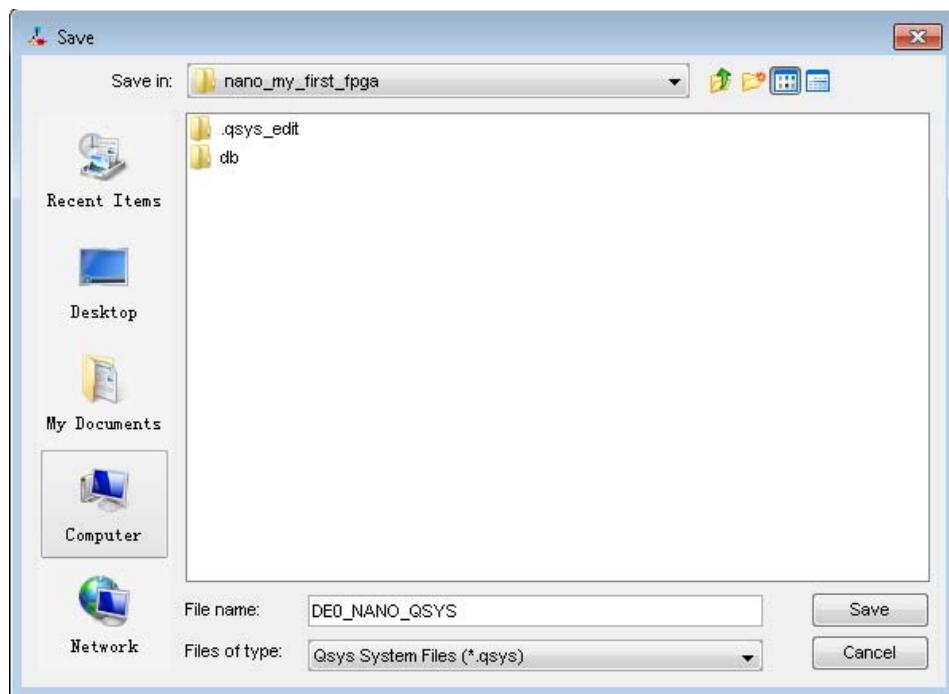

Figure 1-12 Rename System
7. Rename System Name as shown in **Figure 1-12**. Click Save and your will see a window as shown in **Figure 1-13**.